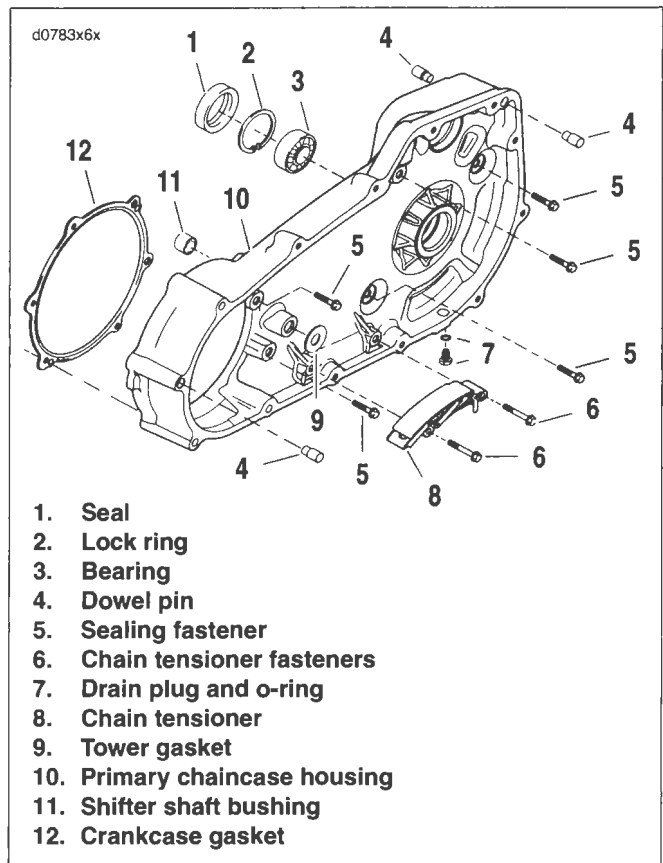

Figure 6-3. Primary Chaincase Housing
5. See Figure 6-3. Remove sealing fasteners (5) securing primary chaincase housing (10) to crankcase and transmission. Discard the crankcase gasket (12) and sealing fasteners.